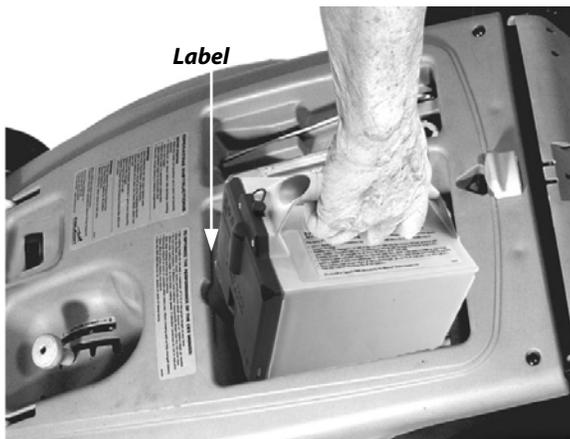

Figure 19
1. Orient the Battery as shown in **Figure 19**. Align the black side of the Battery with the side of the Mower housing where the label reads "Insert Battery with the black side along this edge."
**NOTE:** The indentations on the bottom of the Battery must line up with the metal tabs in the bottom of the Battery compartment. A new replacement battery now has a gold faceplate (originally black as seen in **Figures 19 and 20** below).